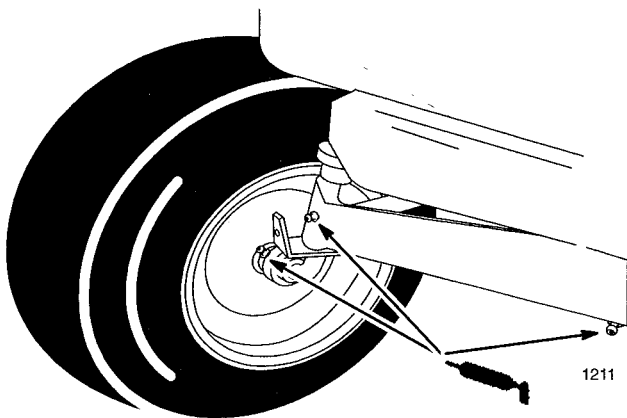

Figure 22
1. Lubricate the front wheels and spindles until grease begins to ooze out of the bearings (Fig. 22).
2. Lubricate the front axle pivot (Fig. 22).